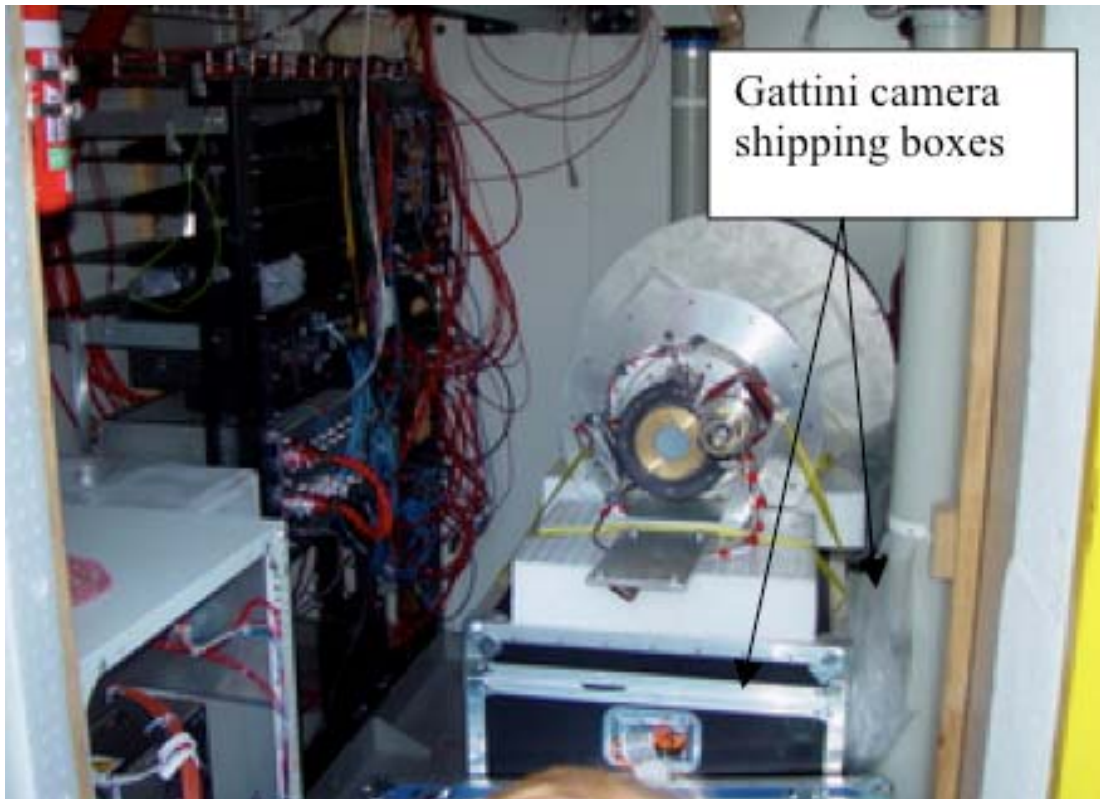

Figure 3 : The location of the Gattini camera shipping boxes underneath the pre-heat instrument
1. Locate the 2 camera shipping boxes in the PLATO instrument module, as shown in Figure 3